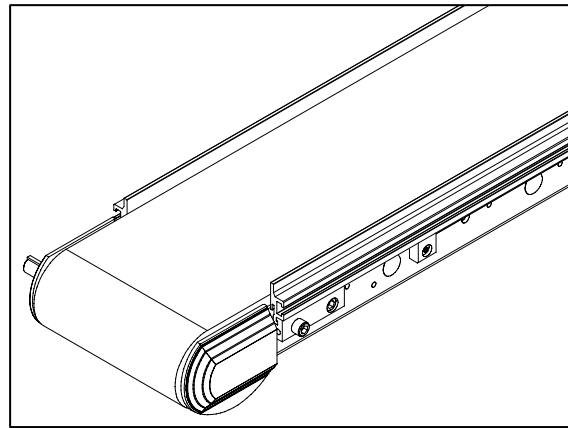

Figure 2
a. Slide the Siderail extrusion through the Siderail Clamps, so the end of the rail is even with the end of the Conveyor’s Frame (**Figure 2**).